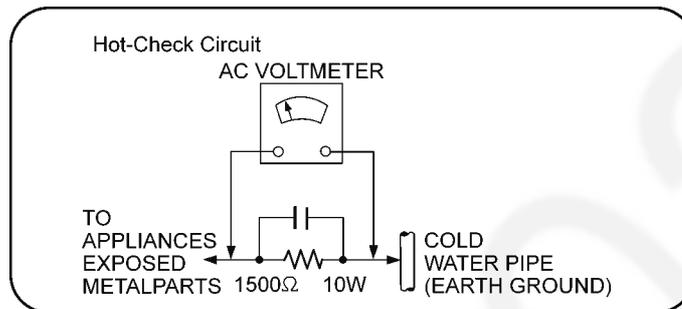

Figure 1-1
2. Connect a 1.5kΩ, 10 watts resistor, in parallel with a 0.15μF capacitors, between each exposed metallic part on the set and a good earth ground such as a water pipe, as shown in Figure 1-1.